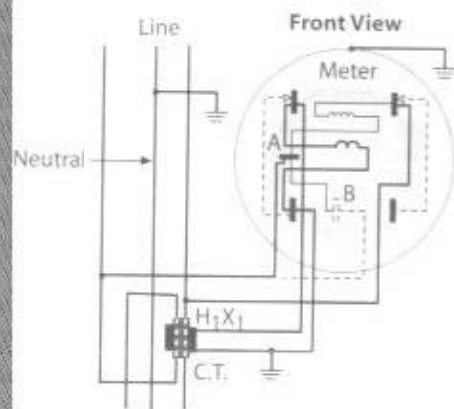

Fig. 17-4 Wiring diagram showing one transformer used on a 120/240-volt service.
**Insulators on pole** Near the top of the pole, install insulator racks of the general type shown in Fig. 17-4. Provide one rack for the incoming power wires and one rack for each set of wires running from the pole to various buildings. Remember that there is great strain on the wires under heavy winds or in case of heavy icing in northern areas. Anchor the racks with heavy lag screws. Better yet, use at least one through-bolt, all the way through the pole, for each rack. Note the fourth insulator on the pole for the equipment grounding conductor run to the barn.
One current transformer is installed at the top of the pole, with the two hot wires running through the hole. Four small 14 AWG wires run from the top of the pole to the meter (which must be of the type suitable for use with a current transformer); two from the secondary of the current transformer and two from the hot wires, for the voltage. The meter operates on a total of not more than 5 amps but the dials of the meter will show the actual kilowatthours consumed. A wiring diagram is shown in Fig. 17-4.